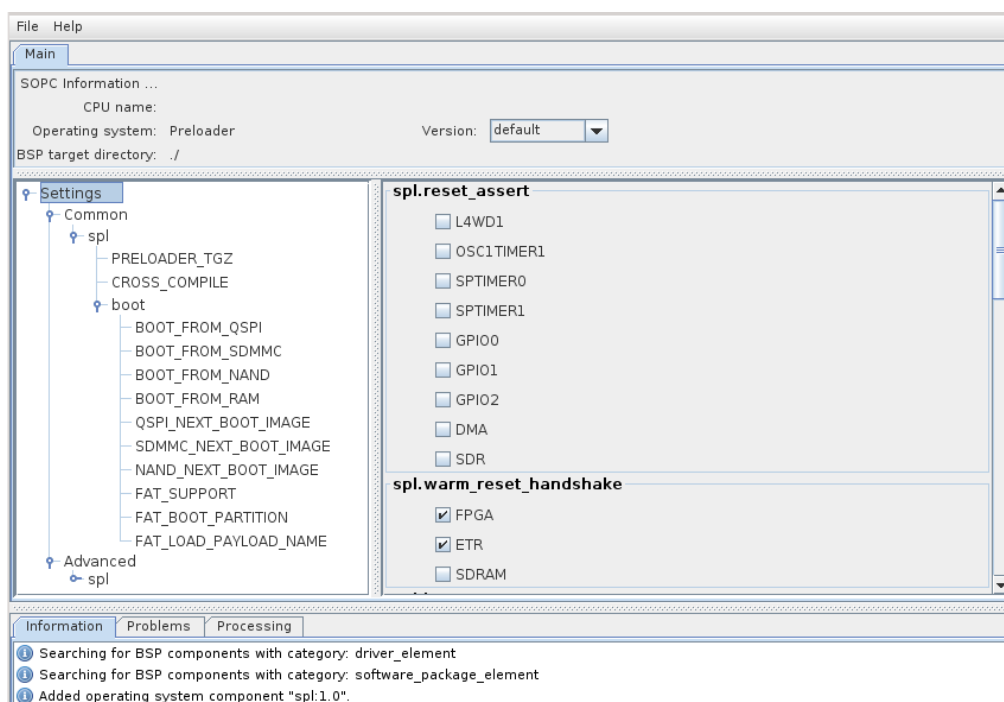

Figure 12-2. Preloader Settings Dialog
- c. Press the “OK” button. You should then arrive on a page with many settings, as shown on Figure 12-2. Take some time to read through them to see what the preloader has the ability to do.
3. On the main settings page of Figure 12-2, we will only need to modify 2 parameters for our design.